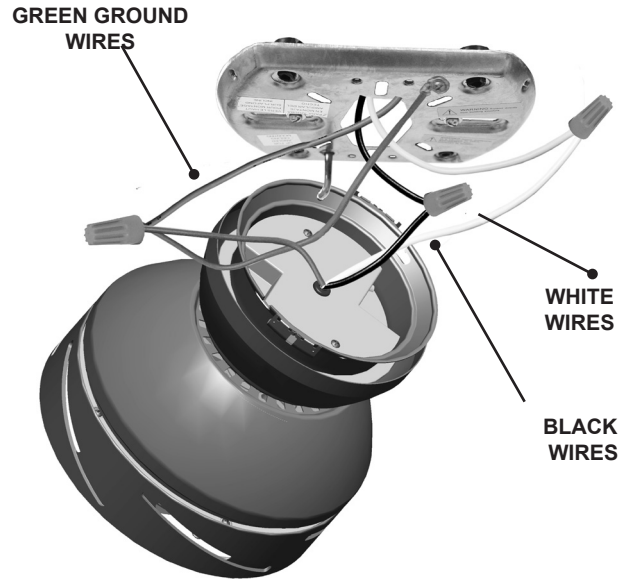

Figure 4
Step 2d. Use the hanging hole on the body of the fan to hang the fan on the hook of the ceiling mounting plate. This will help you in making the electrical connections as shown in Figure 3 and Figure 4.
- GREEN leads from ceiling bracket and motor to GROUND conductor of power source. Secure with wire nut as shown in Figure 4.
- WHITE wire from receiver to the WHITE NEUTRAL conductor wire from the power source. Secure with wire nut as shown in Figure 4.
- BLACK wire from receiver to the BLACK conductor wire from the power source. Secure with wire nut as shown in Figure 4.